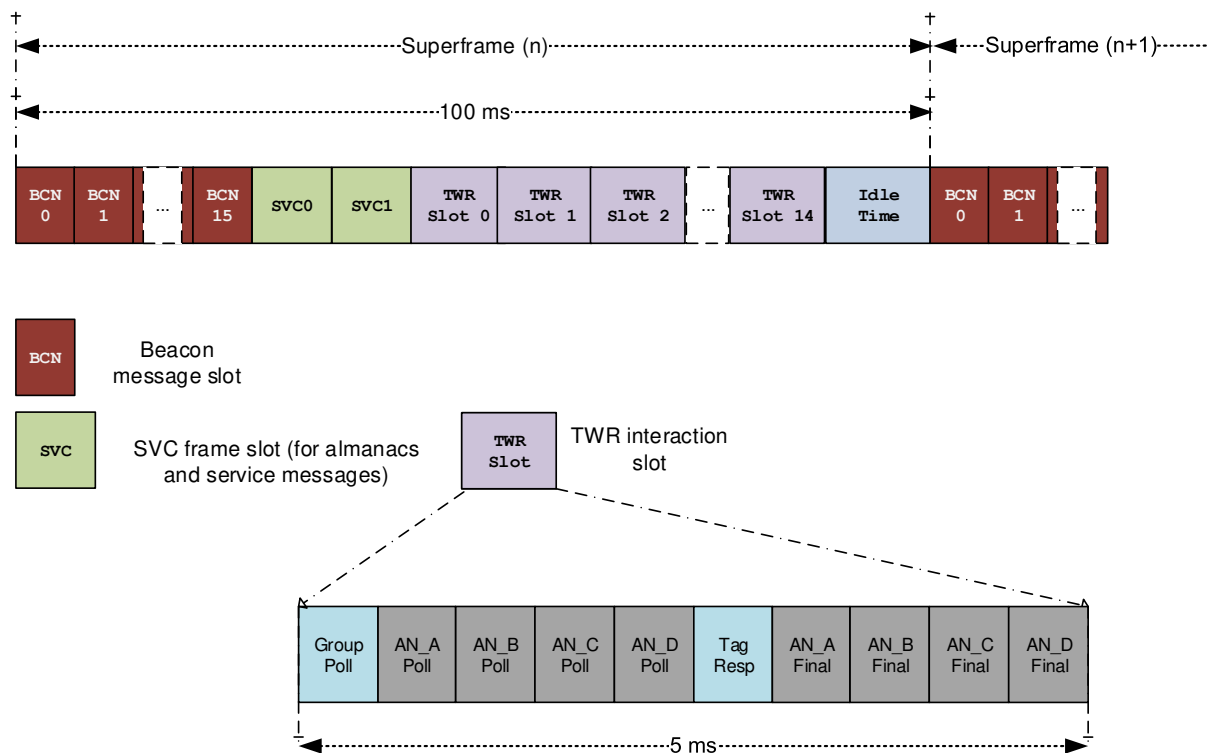

Figure 6: Superframe structure
The DRTLS uses TDMA channel access. The nodes operate using a repeating “superframe” structure of 100 ms duration. This structure is shown in Figure 6. The initiator controls the timing and the superframe starts with 16 Beacon Message (BCN) slots, in which anchors send *Beacon* messages (0), this is followed by two Service (SVC) slots which are used for *Almanac* (9.1.4) and network service messages (e.g. network join request). There are also 15 Two-Way-Ranging (TWR) slots which are used for tag to anchor two-way ranging exchanges. There is some Idle time reserved at the end of the superframe for addition of backhaul data traffic (will be added in Release 2).